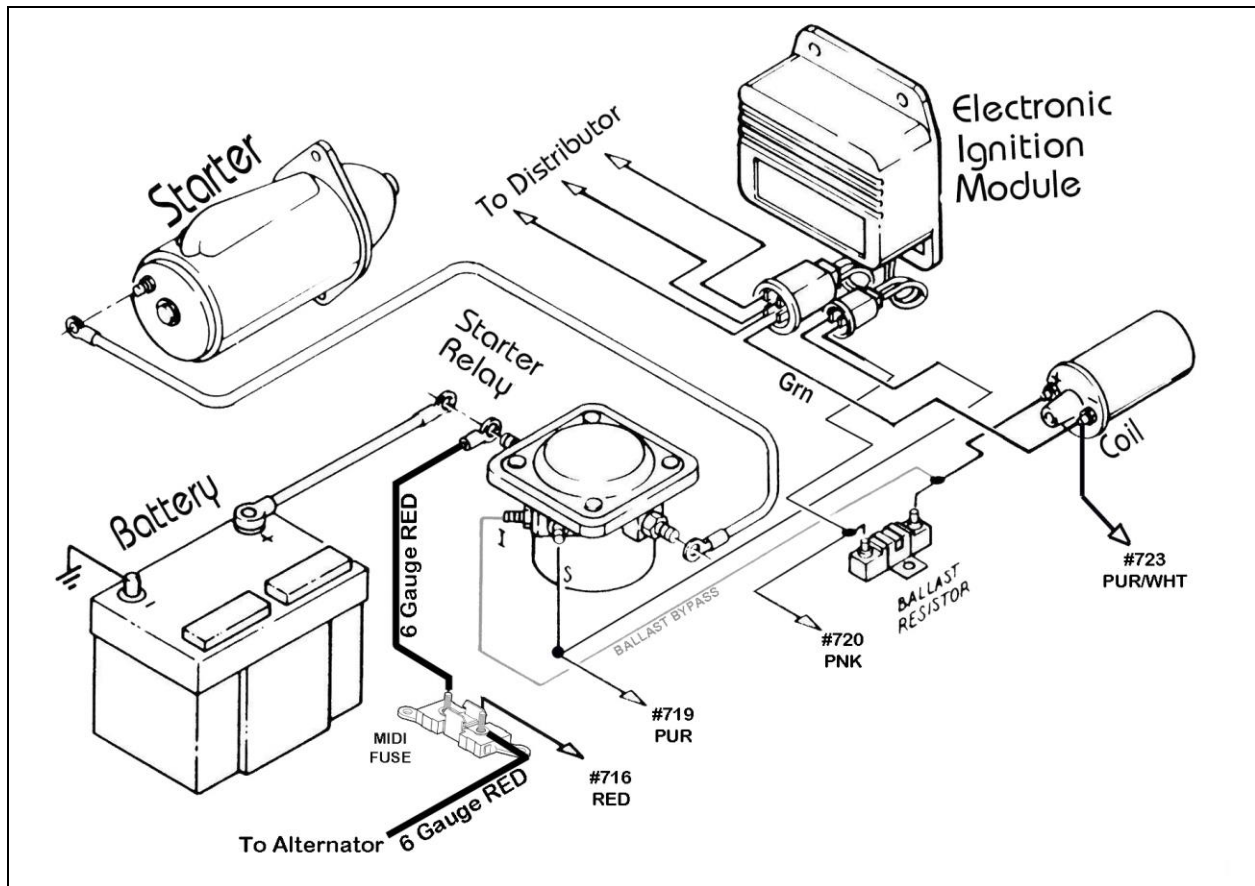

Figure 8.7 Motorcraft Electronic Ignition System
8.3.2 Motorcraft Electronic Ignition System. See Figure 8.7.